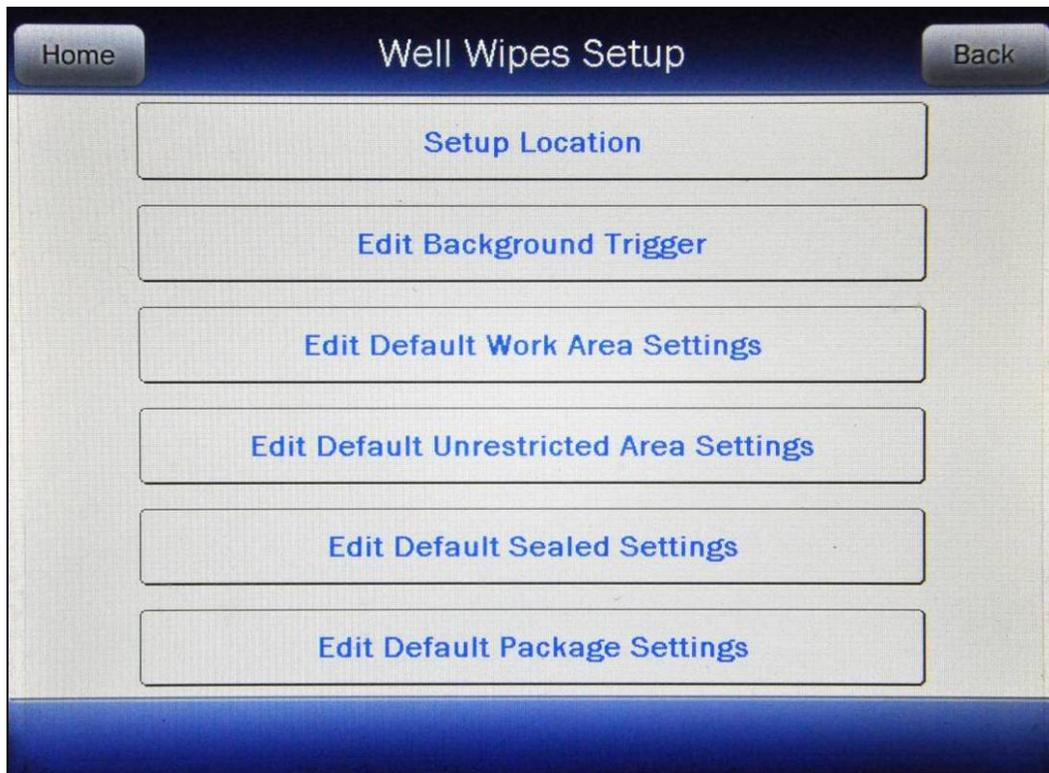

Figure 5-29 Well Wipes Setup Screen
- d Touch the **WIPE TESTS** button. Figure 5-29 Well Wipes Setup Screen will appear.
- c Touch the **ACCEPT** button. Figure 5-29 Well Wipes Setup Screen will appear.
To exit Figure 5-29 Well Wipes Setup Screen,
From Figure 5-29 Well Wipes Setup Screen, touch the **EDIT BACKGROUND TRIGGER** button. Figure 5-30 Edit Background Trigger Screen will appear.
To save the displayed values, touch the **ACCEPT** button. Any changes made will be saved and Figure 5-29 Well Wipes Setup Screen will re-appear.
To return to Figure 5-29 Well Wipes Setup Screen without saving any changes, touch the **CANCEL** button.
To save the changes, touch the **ACCEPT** button. Any changes made will be saved and Figure 5-29 Well Wipes Setup Screen will re-appear.
From Figure 5-29 Well Wipes Setup Screen, touch the **EDIT DEFAULT WORK AREA SETTINGS** button. Figure 5-31 Edit Default Work Area Settings Screen will appear.
To save the changes, touch the **ACCEPT** button. Figure 5-29 Well Wipes Setup Screen will re-appear.
To abort any changes, touch the **CANCEL** button. Figure 5-29 Well Wipes Setup Screen will re-appear.
From Figure 5-29 Well Wipes Setup Screen, touch the **EDIT DEFAULT UNRESTRICTED AREA SETTINGS** button. Figure 5-32 Edit Default Unrestricted Area Settings Screen will appear.
From Figure 5-29 Well Wipes Setup Screen, touch the **EDIT DEFAULT SEALED SETTINGS** button. Figure 5-33 Edit Default Sealed Settings Screen will appear.
From Figure 5-29 Well Wipes Setup Screen, touch the **EDIT DEFAULT PACKAGE SETTINGS** button. Figure 5-34 Edit Default Package Settings Screen will appear.